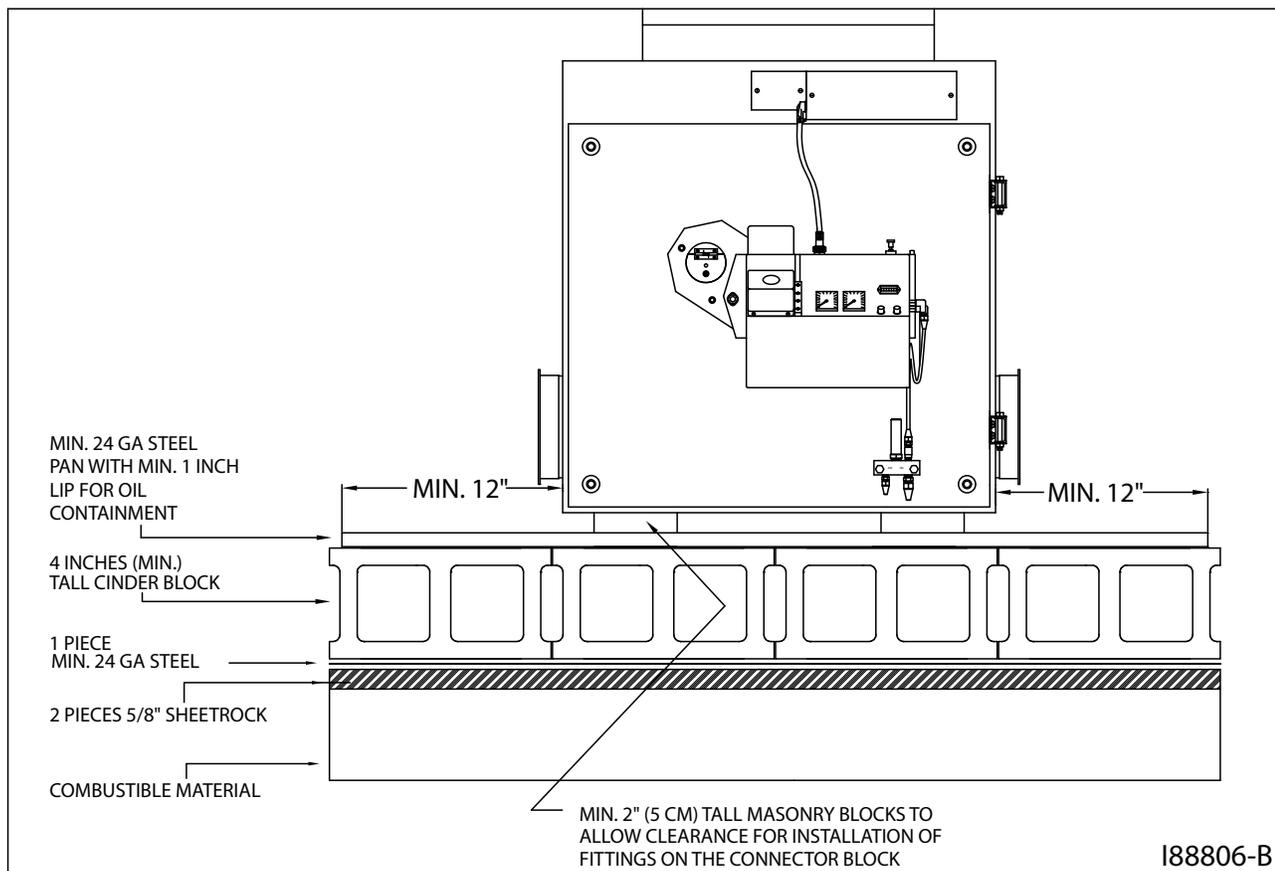

Figure 4E - Furnace Installed on Non-Combustible Floor
CAUTION: If you are installing your furnace in an area with a combustible floor (e.g. over the top of a parts room or on a mezzanine), you must construct a *non-combustible* floor as shown in Figure 4E. Refer to NFPA-31 or CSA-B-139.
2. Refer to Figure 4E. Install two (2) pieces of 5/8" sheet rock on top of the combustible material (wooden floor, wooden beams, etc.) The sheet rock must be cut to the size of the total non-combustible floor area.